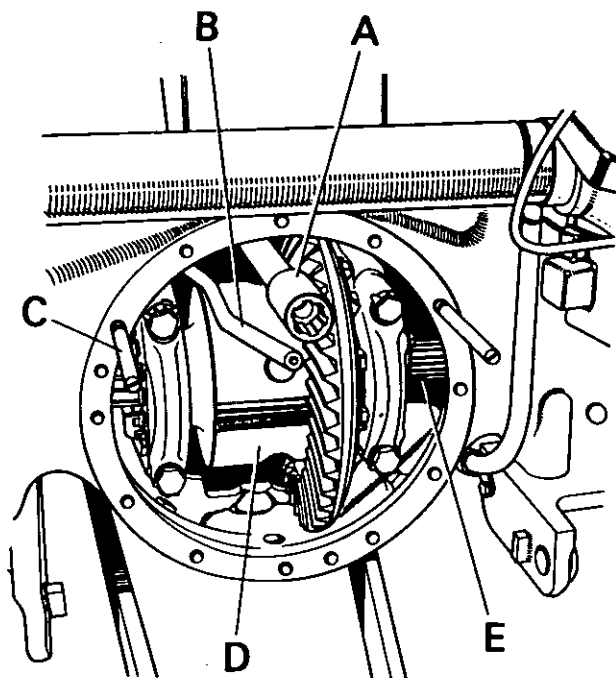

Figure 2.
8. Remove the two bolts attaching drawbar frame to hitch brackets and lower drawbar to ground. Disconnect sensing unit cable and remove sensing unit. Remove bolts attaching PTO unit to rear axle case and withdraw PTO unit complete. Slide cardan shaft out of gearbox. (Fig. 2).